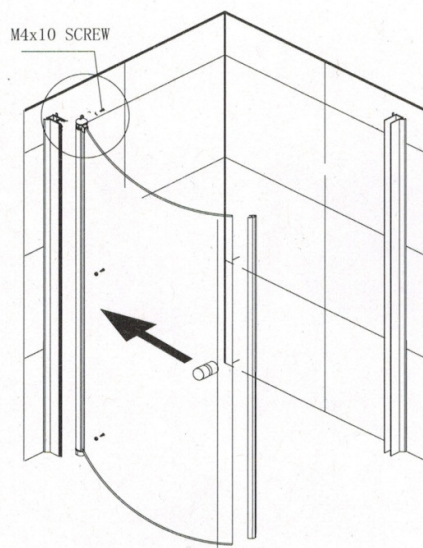
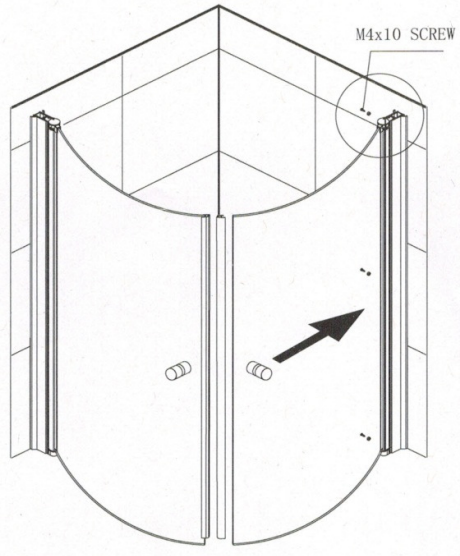

Fig. 4
Fig. 5
- 4). Use the M4 X10 screws to connect the pivot doors with the wall profiles. Then, fix it with the magnet strips and handles. As FIG.4. FIG.5